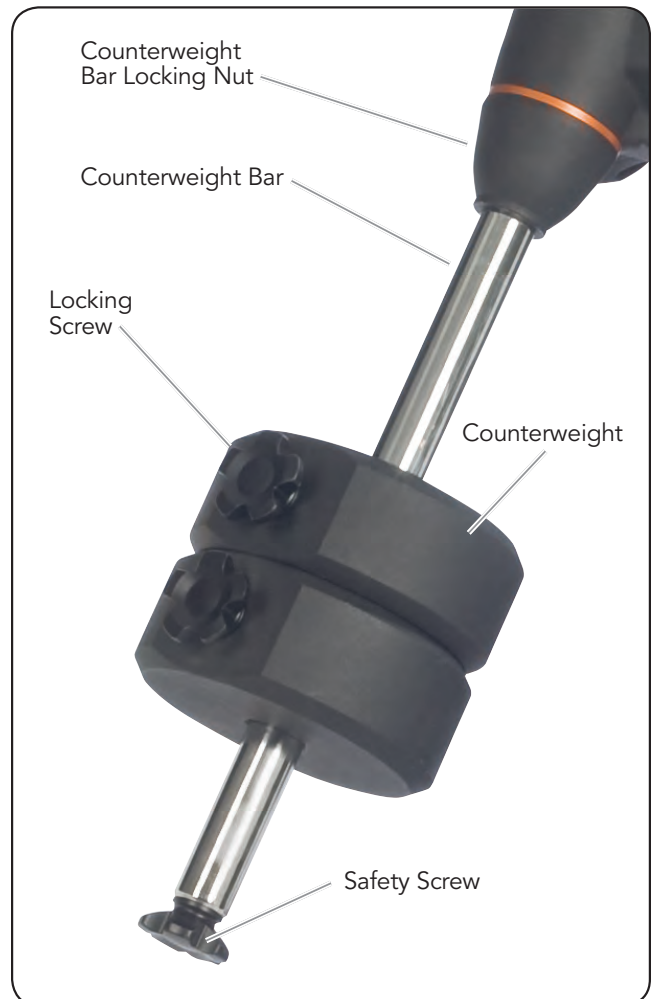

FIGURE 2-5 – MOUNT SHOWN WITH TWO COUNTERWEIGHTS (CGEM DX 1400)
1. Locate the counterweight bar locking nut from the box containing the CGEM DX mount (see Fig 2-5).
4. Slide the counterweight onto the shaft (see Figure 2-5).